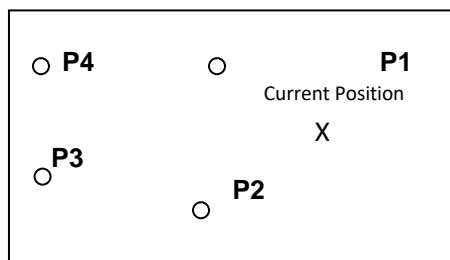

Figure 2
- i) With Sketching, tick Four (4) points in the box under figure 2 in accordance with Command and complete the comment field on each command